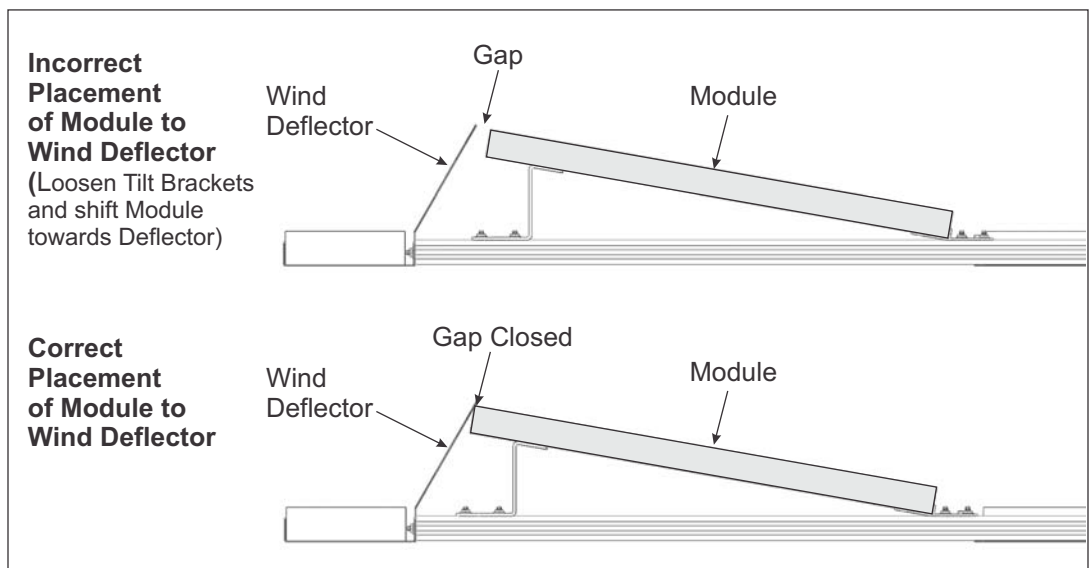

Figure 13-1: Positioning north-most Modules against Wind Deflectors
The north-most PV Modules must be positioned so that the Modules' north edge is butted up against the Wind Deflectors. If a gap exists between the Modules and Deflectors, an adjustment must be made to close this gap. (See Figure 13-1)
Set one north-most PV Module onto its Tilt Brackets and examine its fit against the Wind Deflectors (See Fig. 13-1 above). If a gap exists, make the following adjustments.
- A. Measure the gap or overlap between the Module and Wind Deflector (See Figure 13-1).